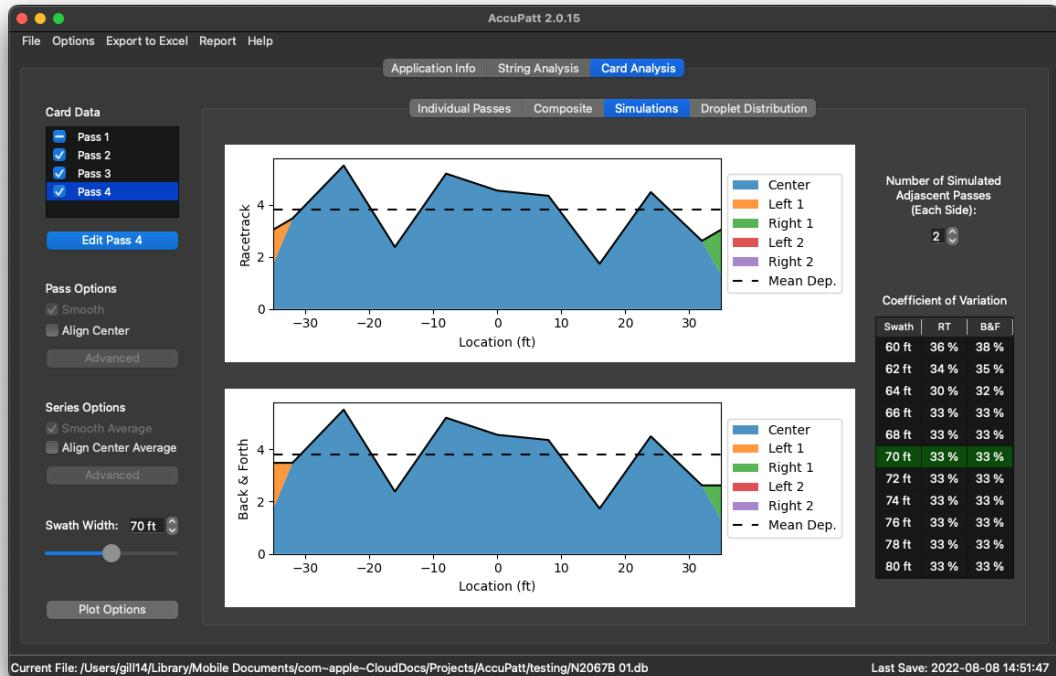

Figure 12: Spray-Card Analysis - Simulations
The **Simulations** sub-tab contains two plots (Figure 12). Both plots simulate additively overlapping the measured pattern at intervals of the adjusted swath width. The bold black line represents the resultant summed pattern and is interpreted here as projected in-field uniformity. The dashed horizontal line represents the mean value, about which standard deviations are computed for coefficient of variation (CV) calculations. In other words, the further a data point on the bold black line is (vertically) from the dashed line, the more it contributes to the CV.